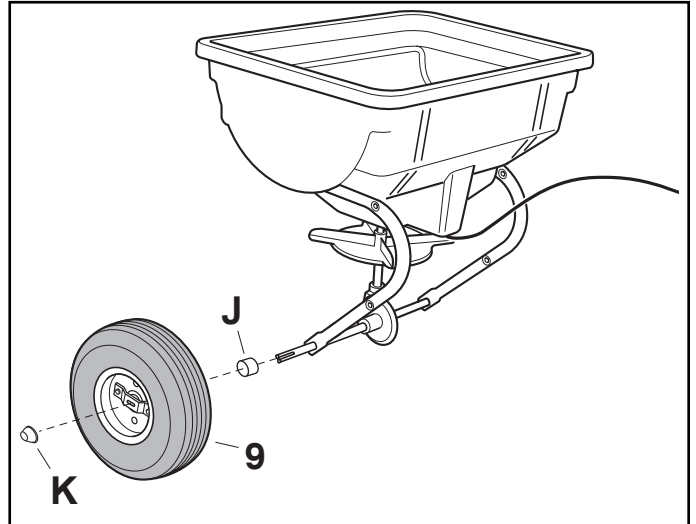

FIGURE 3
- Slide a spacer (J) over the right side of the axle. See figure 3.
- Attach the drive wheel (9) to the right (indented) side of the axle. Secure the wheel in place with a hub cap (K). See figure 3.